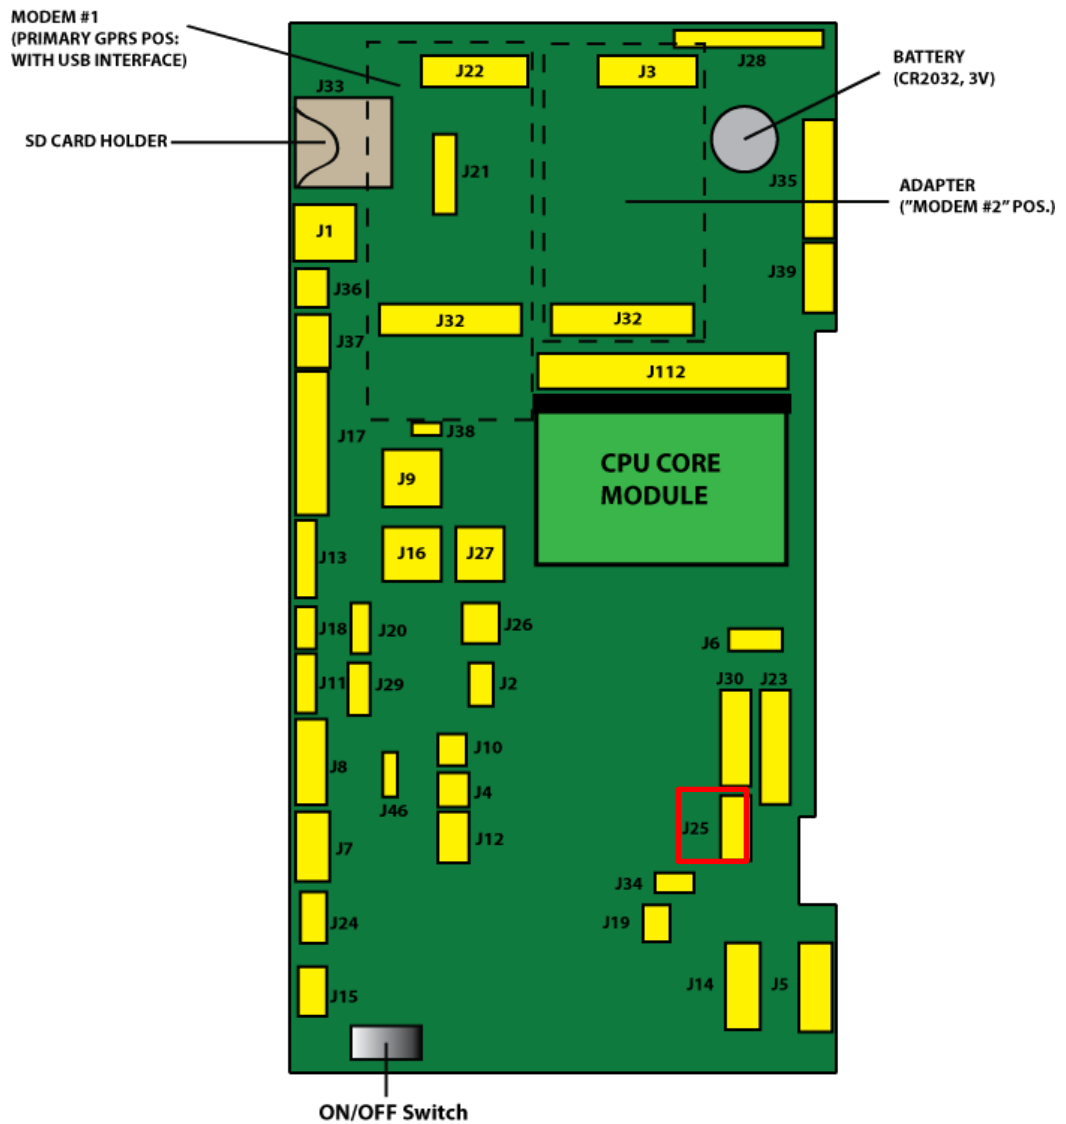

Figure 74. AVR programming JTAG interface connector on CPU board ("main board") Marked with red square.
3. Connect the *JTAGICE* programming tool to your PC and to the JTAG interface connector on the circuit board where the AVR to be updated is located (see Figure 72 – Figure 74 below).